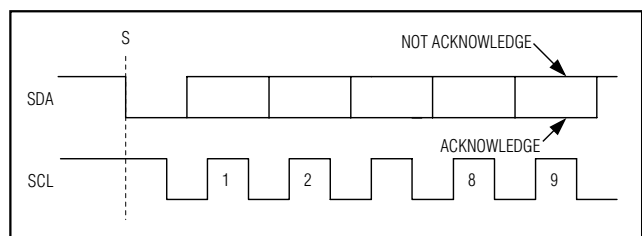

Figure 6. Acknowledge Bits
Successful data transfers are acknowledged with an acknowledge bit (A) or a not-acknowledge bit (\bar{A}). Both the master and the MAX1036–MAX1039 (slave) generate acknowledge bits. To generate an “acknowledge,” the receiving device must pull SDA low before the rising edge of the acknowledge related clock pulse (ninth pulse) and keep it low during the high period of the clock pulse (Figure 6). To generate a “not acknowledge,” the receiver allows SDA to be pulled high before the rising edge of the acknowledge related clock pulse and leaves it high during the high period of the clock pulse.